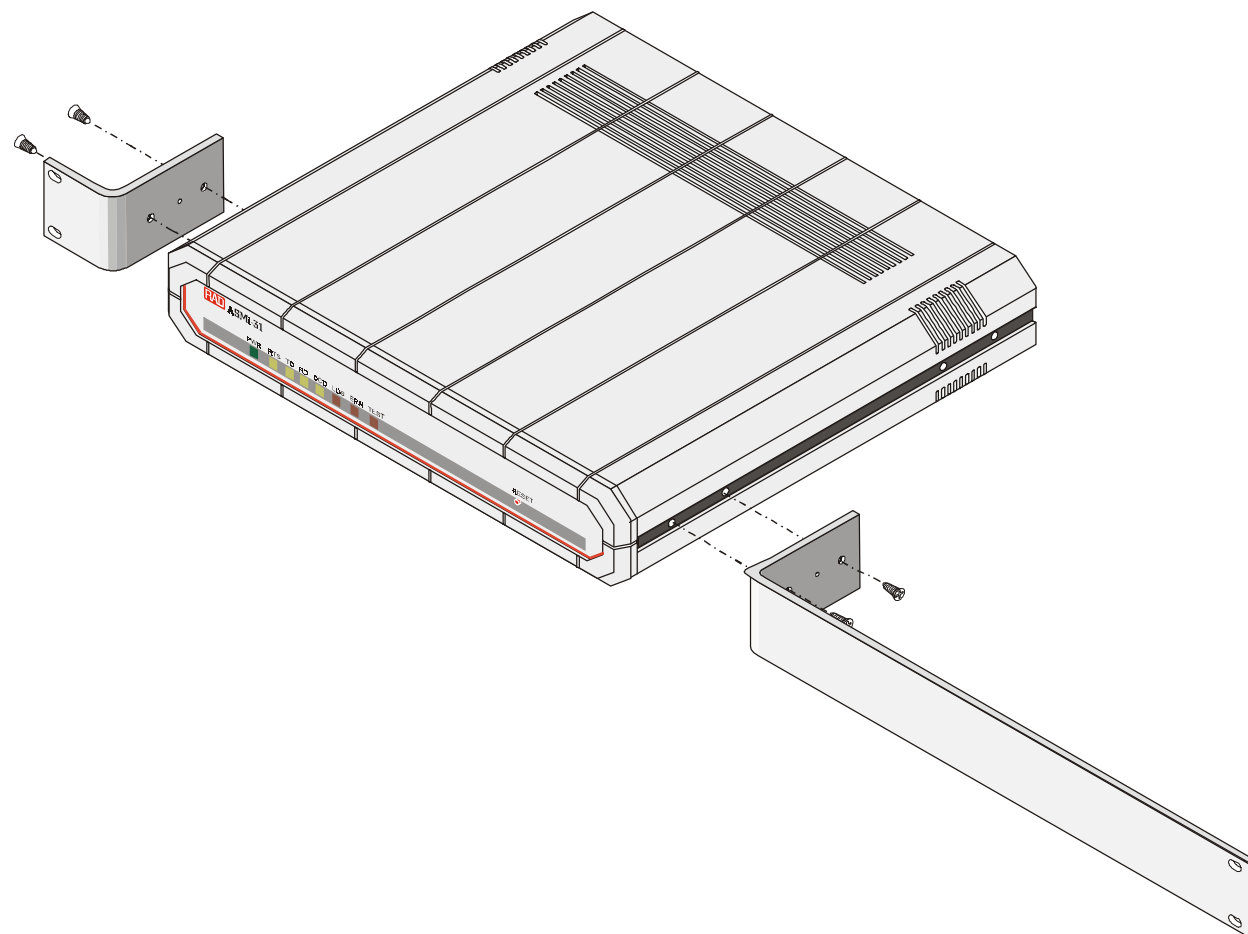

Figure F-1 Installation of a Single Unit
1. Fasten each bracket to the side walls of the unit by two screws which are inserted into the two front holes on the side wall. (The unit is supplied with nuts already in place on the inner side wall). Note that the short bracket fastens to the left side of the unit, and the long bracket to the right side of the unit (see *Figure F-1*).